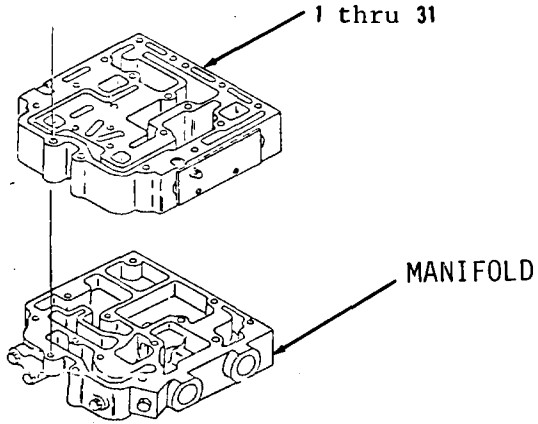

Figure 14-100.
1. Remove items 1 thru 32 as an assembly (Figure 14-100) from manifold.